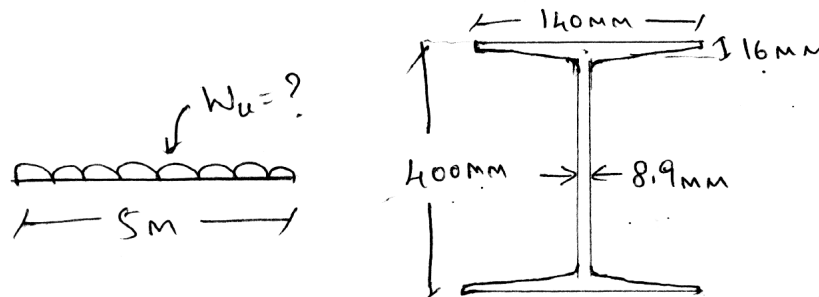

Fig. 10(c).
- iv) Maximum deflection of simply supported beam as shown in Fig. 10(c).